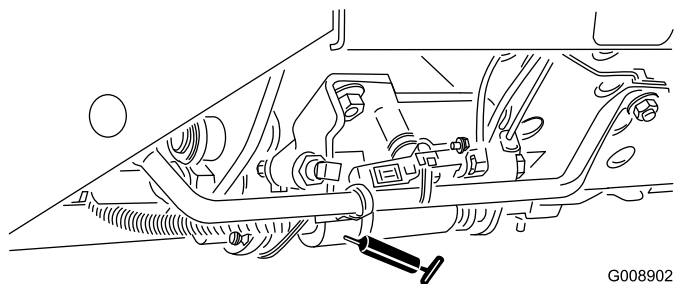

Figure 47
- Mow/transport slide (Figure 47)